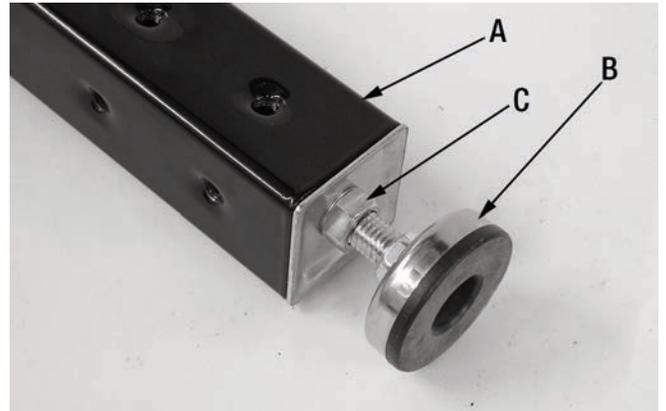

FIGURE 1
- 1) Locate the 4 identical legs (A) Fig.1 and install an adjustable leveling foot (B) on each leg as shown. Once the stand is completely assembled and leveled properly, tighten hex. nuts (C) up against the leg as shown.